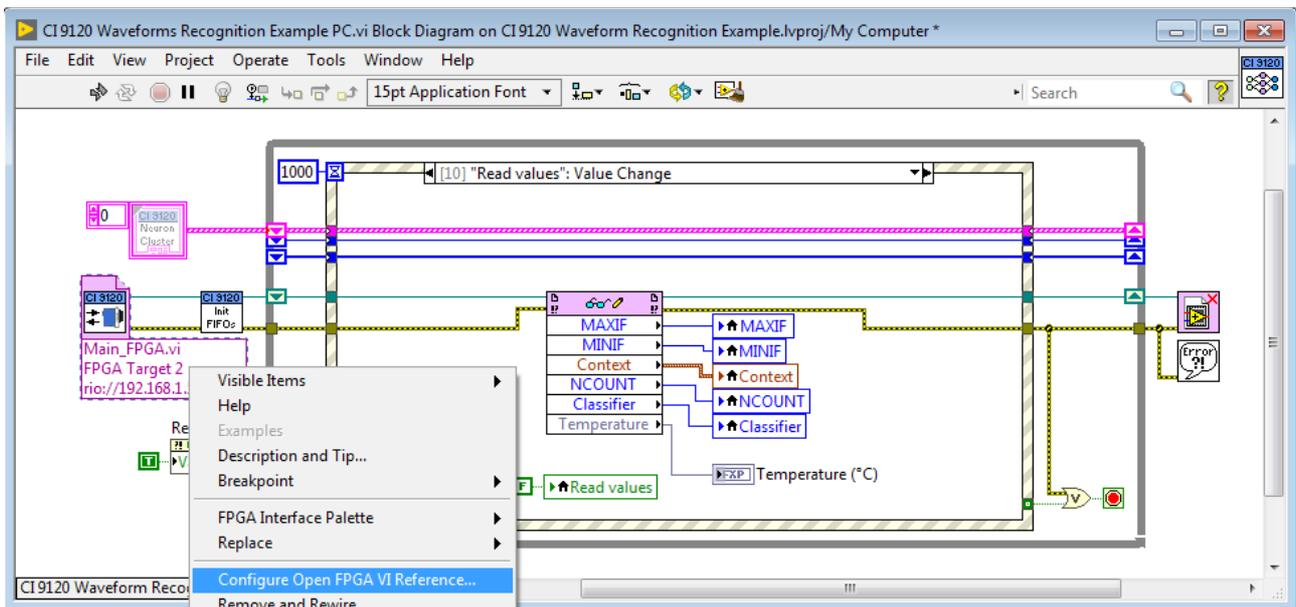

Fig. 2: Configuring the “Open VI Reference...” on the PC side.
12. Go to the block diagram of the PC vi (“CI 9120 Waveform Recognition Example PC.vi”) and right-click the Open FPGA VI Reference SubVI → Configure Open FPGA VI Reference... (See Fig.2)